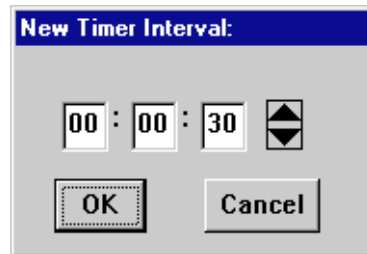

Figure 5-7. New Timer Interval Text Box
1. Click on the clock symbol (🕒) next to the **Poll Rate (sec)** text box. The New Timer Interval text box, Figure 5-7, will appear.